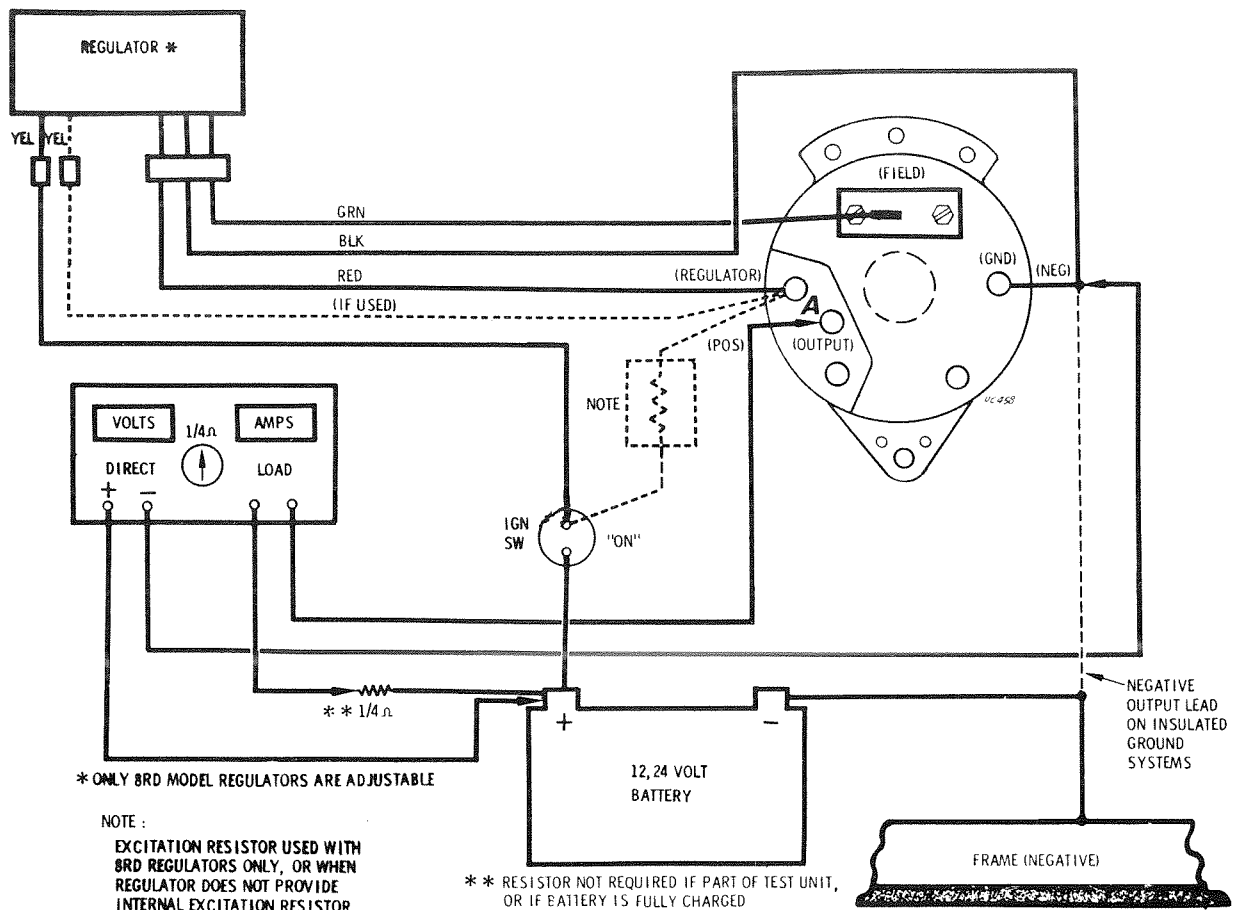

FIG. 3-21 TYPICAL REGULATOR TEST SET-UP DETAIL
The regulator voltage setting may be changed from the factory established value in order to accommodate a special operating situation. The most desirable setting is the one that allows the alternator to maintain a fully charged battery with minimum water usage. Carefully check all circuit connections to eliminate loose wires or higher resistance junctions prior to adjusting the regulator. Figure 3-21 shows a typical equipment set-up diagram for regulator test and adjusting purposes.
1. With engine off, connect voltmeter across the alternator output and negative (or ground) terminals, and connect an ammeter in series with alternator output, Figure 3-21.